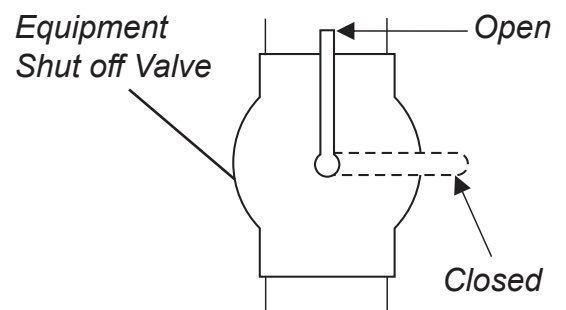

Fig. 15: Equipment Shutoff Valve
1. Open equipment shutoff valve (see Fig. 15).